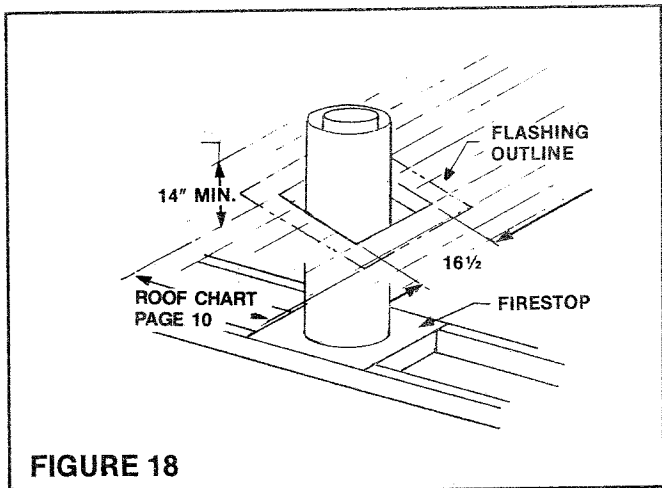

FIGURE 18
STEP 6: After cutting the hole in the roof, uncover the pipe and add sections until the chimney extends a minimum of 14 inches above the highest point of the roof cutout (Figure 18).
STEP 7: Position the flashing over the chimney and flat on the roof. Mark an outline of the flashing on the roof and remove the flashing. Remove all nails within the outlined area (Figure 18).